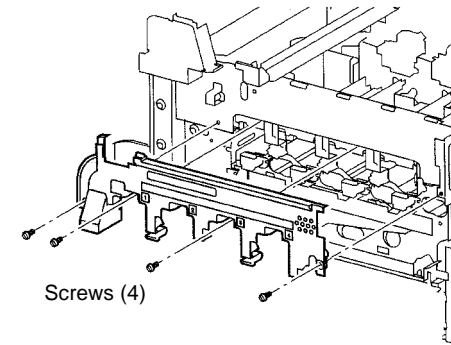

Figure 1 Removing Dispenser Cover
6. Remove Inner Cover (Figure 1).
- a. Remove Screws (4).